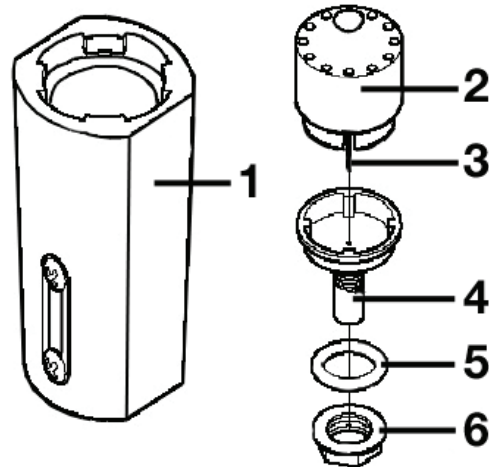

Fig. 12: Automatic drain disassembly
1. Turn the filter bowl (Fig. 12, Pos. 1) counter clockwise one-eighth turn and pull the filter bowl down from the filter housing.
2. Unscrew the nut (Fig. 12, Pos. 6).
3. Remove the drain unit (Fig. 12, Pos. 2-5) from the filter bowl (Fig. 12, Pos. 1).
4. Remove the o-ring (Fig. 12, Pos. 5).
5. Carefully pull the float housing (Fig. 12, Pos. 2) from the seat (Fig. 12, Pos. 4). Do not bend the needle (Fig. 12, Pos. 3).